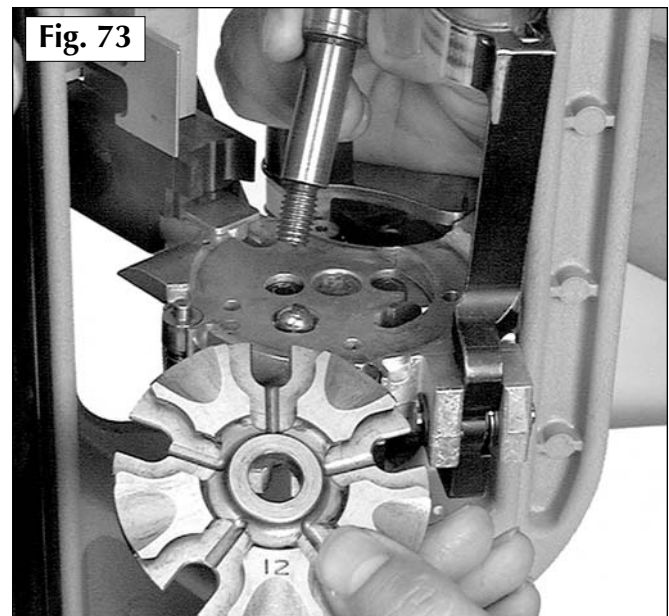

Fig. 73
6. Remove the shellplate from the machine. **Fig. 73** Be careful not to lose the 3/8" index ball (#13891) and index pawl (#13667) when cleaning and lubing your machine. **Fig. 74** When you install your shellplate onto the machine, remember to wipe a light amount of grease in the center hole of the shellplate.